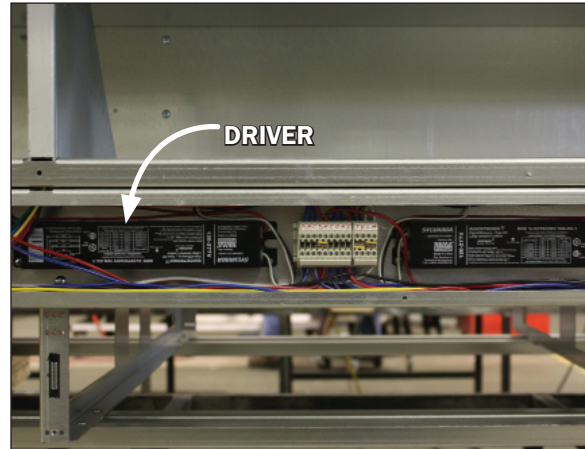

Fig. 7 Electrical raceway
1. Depending on the length of the case; the electrical raceway can be located at outside back of the case behind the rear panel (Fig. 7).